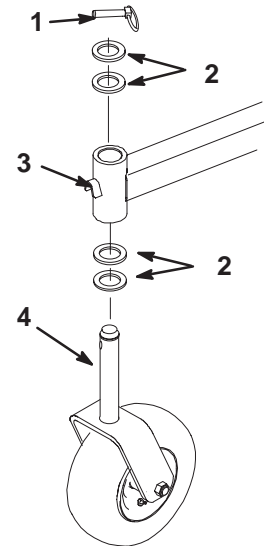

Figure 59
2. Remove the locking pin and spacer(s) from the top of the castor wheel fork (Fig. 59).
6. Inspect the castor wheel fork for wear and replace if necessary (Fig. 59).
7. Slide the castor wheel fork through the bushings in the mounting tube. Replace the spacer(s) onto the fork and secure with the retaining ring (Fig 59).